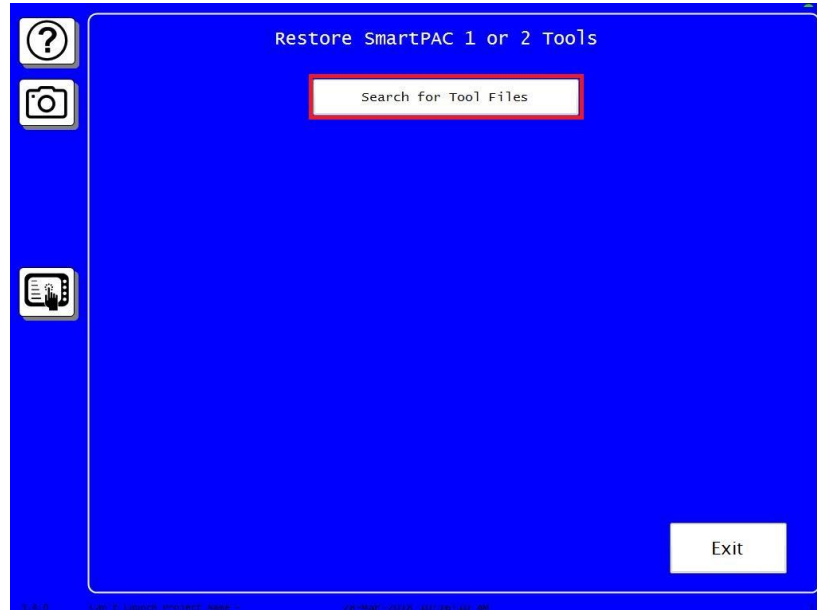

Figure 4. Search for Tool Files
4. Press **Search for Tool Files** (Figure 4).